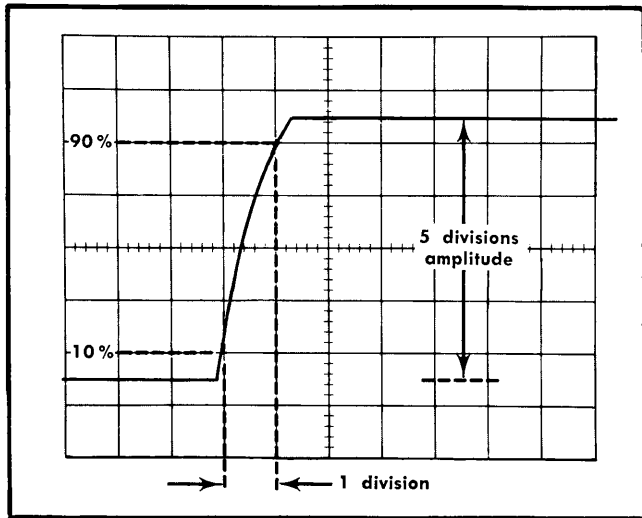

Fig. 5-19. Idealized waveform showing maximum allowable calibrator risetime at sweep rate of 1 μ s/division.
f. CHECK—CRT display for one division or less between the 10% and 90% points on the leading edge of the calibrator waveform (one microsecond, or less, risetime; see Fig. 5-19).